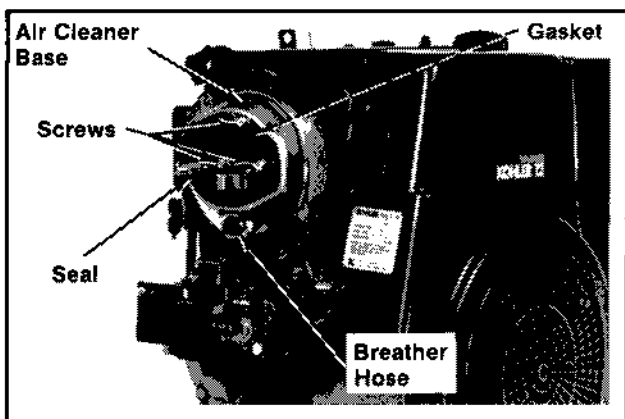

Figure 10B-3. Removing Air Cleaner Base.
- Remove the three screws, air cleaner base, gasket, and breather hose. Refer to Figure 10B-3.